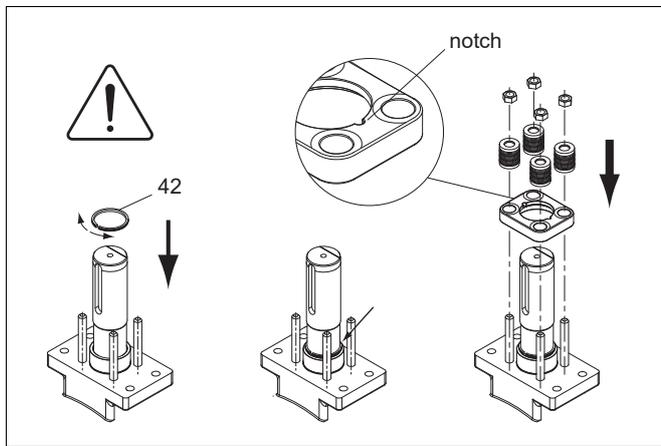

Fig. 20. Mounting the retainer ring
- ❑ After fitting the ball and the body gasket, lift the male body half (1) and the seat (7) onto the ball. See Section 4.7.1.
- ❑ Check the correct alignment of the bonnet bore with the body joint. Push the bonnet (8) onto the stem.
- ❑ Put the bonnet (8) into its place. After tightening the flange bolts loosen the bonnet bolts and remove the bonnet.
- ❑ Tighten the flange bolts as indicated in Figure 20. Start from opposite the stem and first tighten the bolts to torques that are 10 % of the values in Table 1. Then tighten them to their final torques in the same sequence.